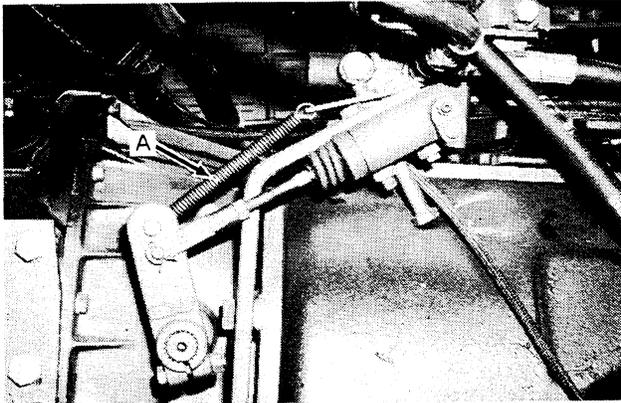

Figure 13:
2. On the left side of the transmission, remove the external clutch arm return spring (A—Fig. 13).